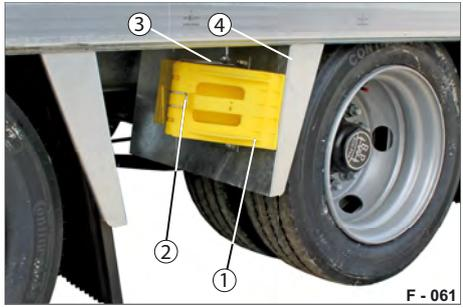

Fig. 86 Wheel chocks on the mudguard
- ▶ Press down the retaining spring (Fig. 86/2) from the chock.
- ▶ Pull the chock (Fig. 86/1) out of the holder.
- ▶ Insert the chock fully into the holder (Fig. 86/3).
- The retaining spring (Fig. 86/2) automatically secures the chock.